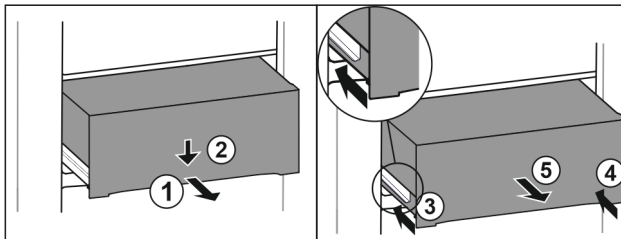

Fig. 189
- Pull out drawer half-way. Fig. 189 (1)
- Push the drawer down at the front. Fig. 189 (2)
- Push the left rail in by about 2 cm. Fig. 189 (3)
- Push the right rail in by about 2 cm. Fig. 189 (4)
- Remove drawer to the front. Fig. 189 (5)